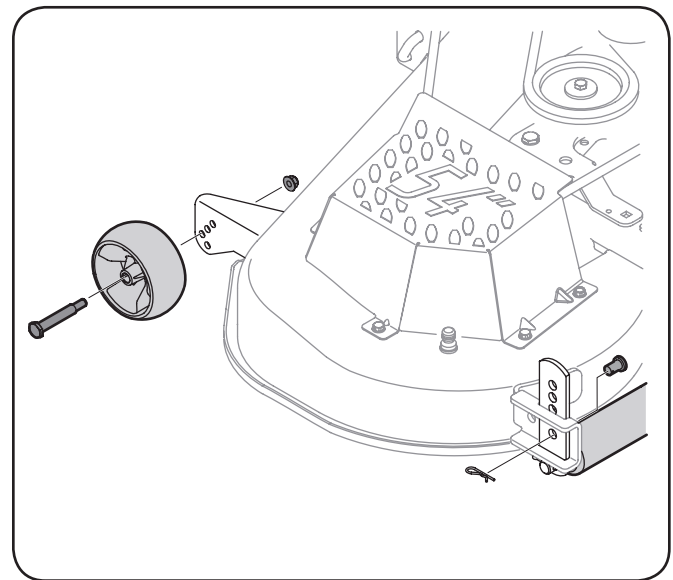

Figure 3-4
- b. Remove the front gauge wheels by removing the lock nuts and shoulder screws which secure them to the deck. See Figure 3-4.
- e. Remove the clevis pins and hairpin clips from the deck roller brackets on the left and right sides of the cutting deck. See Figure 3-4.